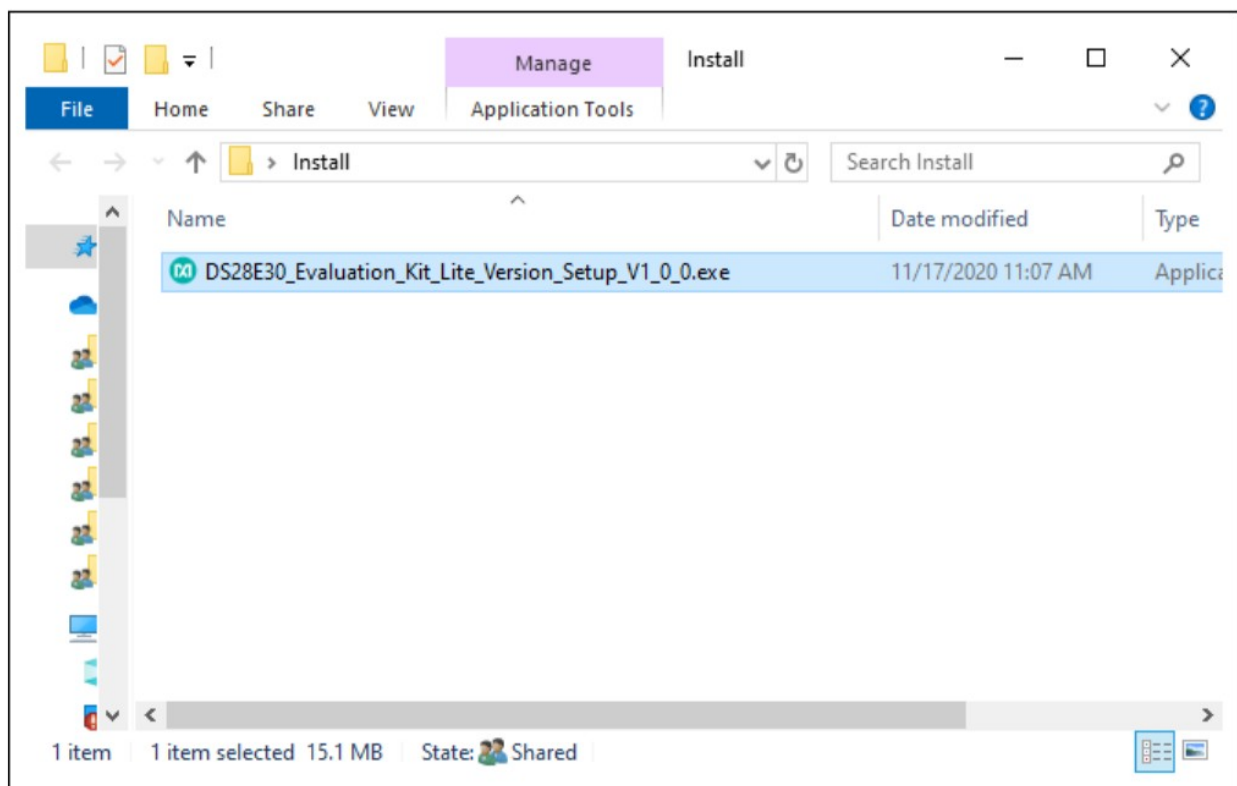

Figure 1. File Viewer
2. In a file viewer (Figure 1), double-click the DS28E30\_Evaluation\_Kit\_Lite\_Version\_Setup\_V1\_0\_0.exe file to begin the installation.